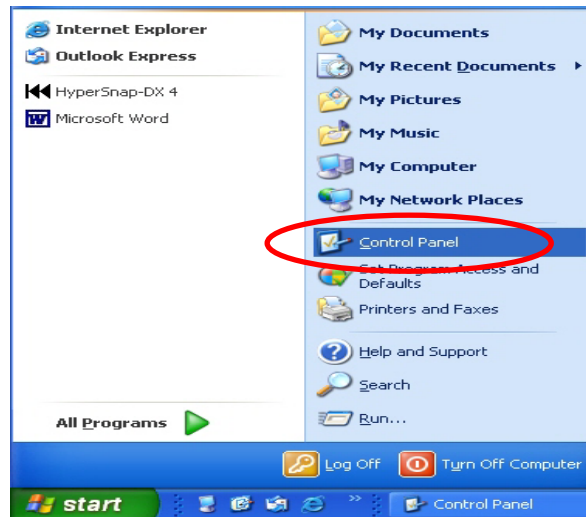

Figure 5-7: Select settings
Step 1: Click “Start” in the task bar, then clicks the Control Panel as shown in figure 5-7.